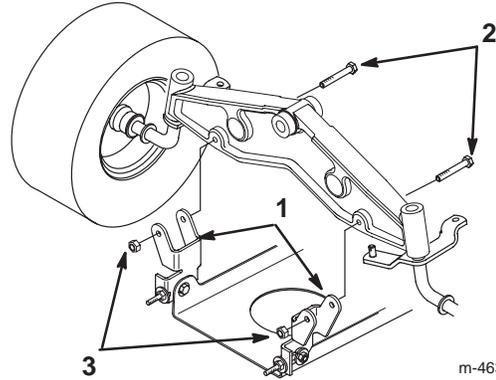

Figure 39
- Remove the bolts and locknuts and pull the 2 mower pivot mount brackets down from the front axle (Fig. 39).